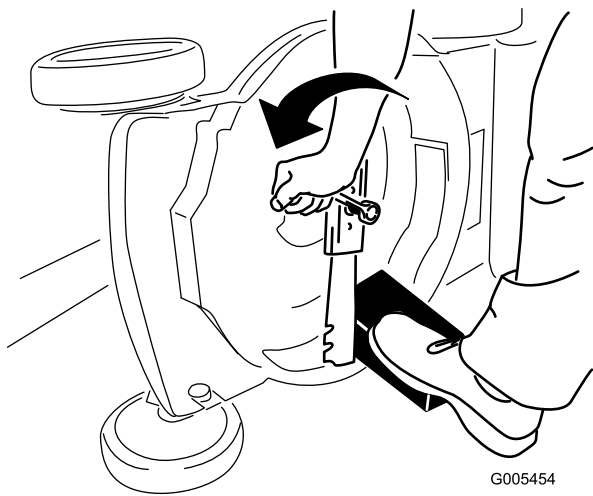

Figure 41
3. Use a block of wood to hold the blade steady (Figure 41).
4. Remove the blade, saving all mounting hardware (Figure 41).